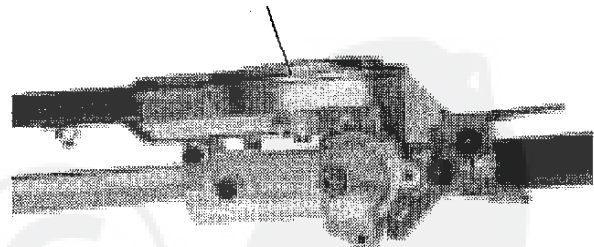

Figure 12
2. Using the procedures described on the previous page, rotate the cutter assembly so it is parallel to the tube. Make sure the latch lock and the latch release return securely to a locking position. See Figure 12.